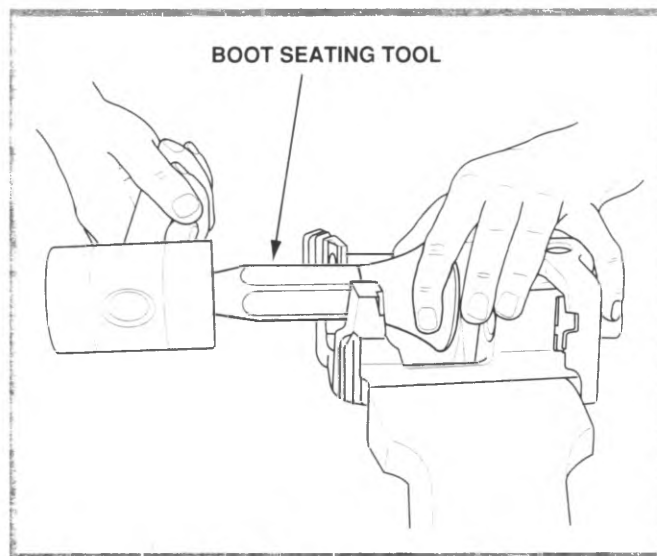

Figure 6-43, Install Piston Boot
10. Position the outside of the boot in the caliper counterbore and seat with a boot seating tool (figure 6-43).